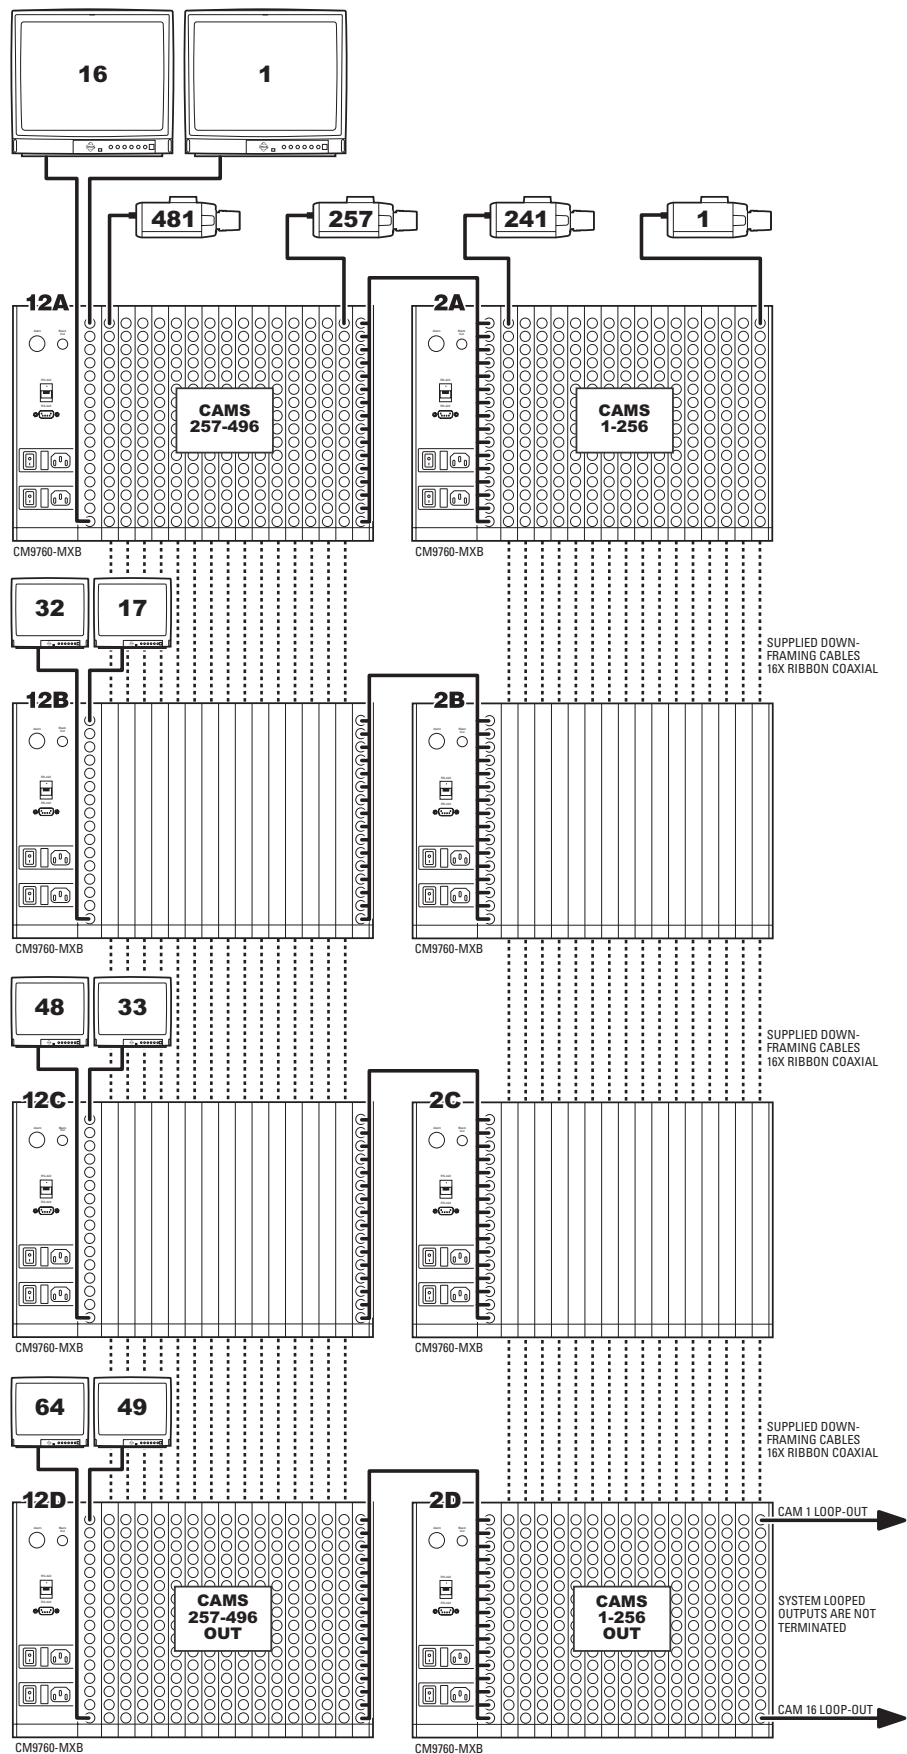

Figure 72. Sideframing and Downframing: 496 x 64 Configuration, Looping
- 496 x 64, looping (refer to Figure 72)